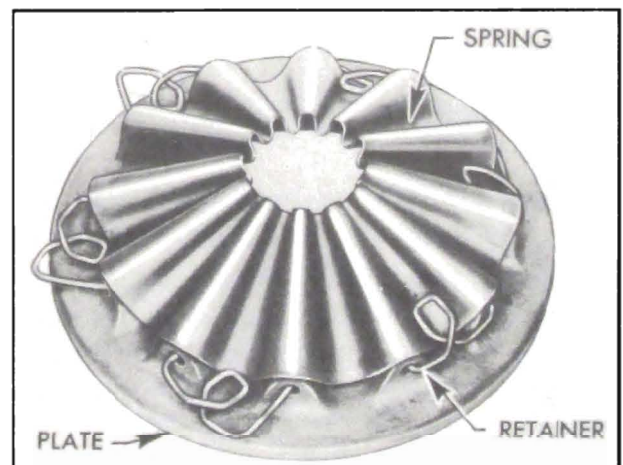

Figure 4-15—Assembling Pressure Plate, Clutch Spring, and Retainers—Series 40-50
3. Lift off clutch cover, then unhook all spring retainers from clutch spring by working one leg of retainer toward center of spring and the other leg away from center. See figure 4-15.
push spring retainers up over the spring. See figure 4-15.